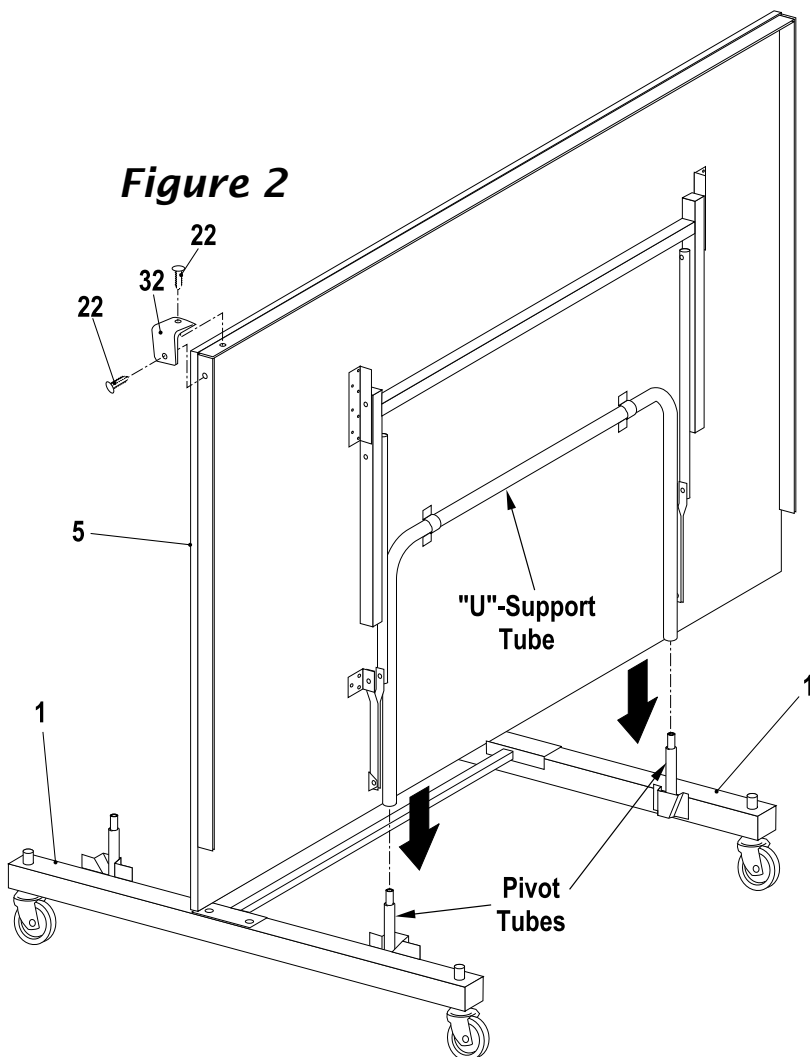

Figure 2
2. Attach table top (#5) to table base that you just assembled, as shown in Figure 2. With at least one adult on each side of table top (#5), lift top and align ends of "U"-support tube with top of pivot tubes on caster rails (#1). Slide tubes together.